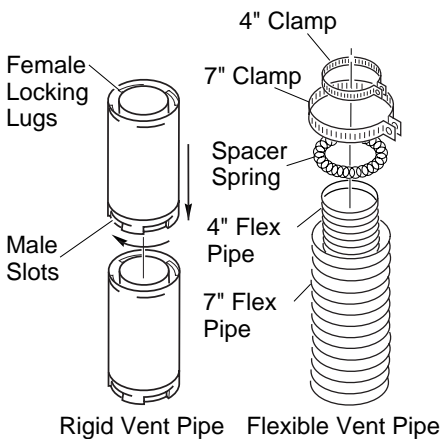

Figure 12 - Vent Pipe Connections
Twist-lock Procedure: The female ends of the pipes and fittings have four indentations (locking lugs). These lugs will slide straight into matching slots on the male ends of adjacent pipes and fittings. (All connections must be sealed with high temperature silicone sealant as specified in the second warning statement on page 7.) Push the pipe sections together and twist one section clockwise approximately one-quarter turn until the sections are fully locked. See Figure 12, page 9. *Note:* Horizontal runs of vent must be supported every three feet. Use wall straps for this purpose.
Flexible vent pipe must be installed with spacer springs every 12". See Figure 12, page 9. All connections must be clamped tightly and sealed with high temperature silicone sealant as specified in the second warning statement on page 7.
2. Assemble the desired lengths of pipe and elbows necessary to reach from the fireplace flue up through the firestop. All connections must be sealed with high temperature silicone sealant as specified in the second warning statement on page 7. Be sure all pipe and elbow connections are fully twist-locked (see Figure 12, page 9).